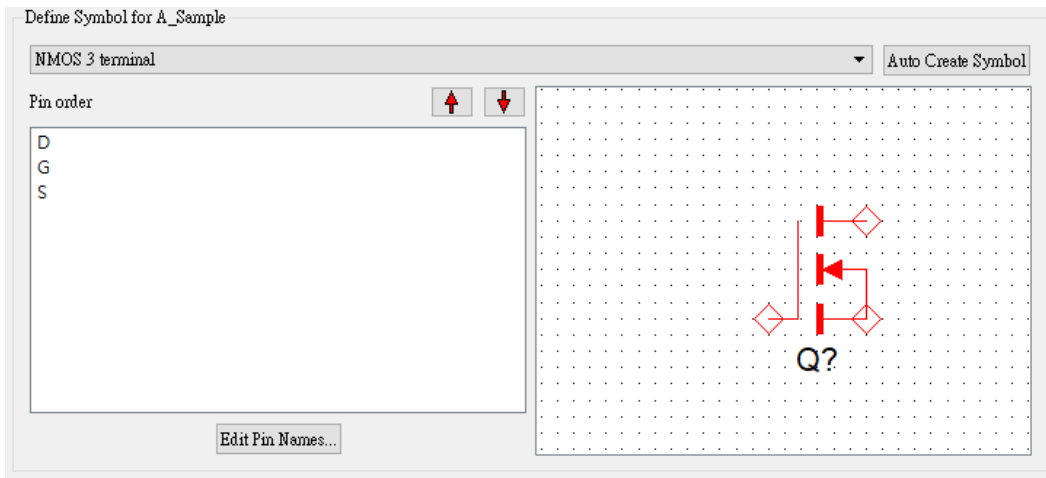

Figure 7
7. You can choose a built-in symbol (NMOS 3 terminal for 3 pins / N-channel 4 terminal_KS for 4 pins , Figure 7) or follow the steps below to create a new symbol.